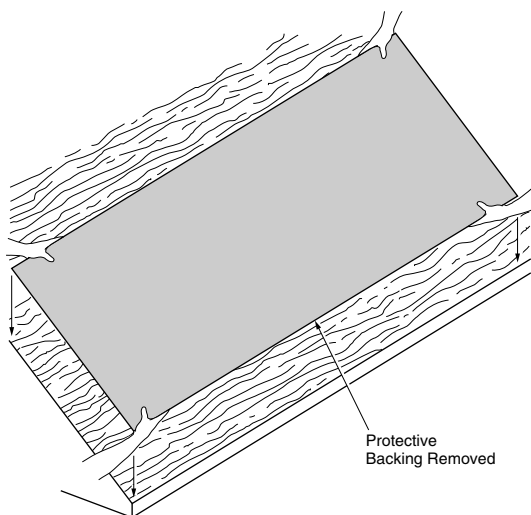

Figure 5-7: Application using the “Fly-In” Method.
- Drop or “fly” the sheet into place, using great care to assure correct placement (Figure 5-7).